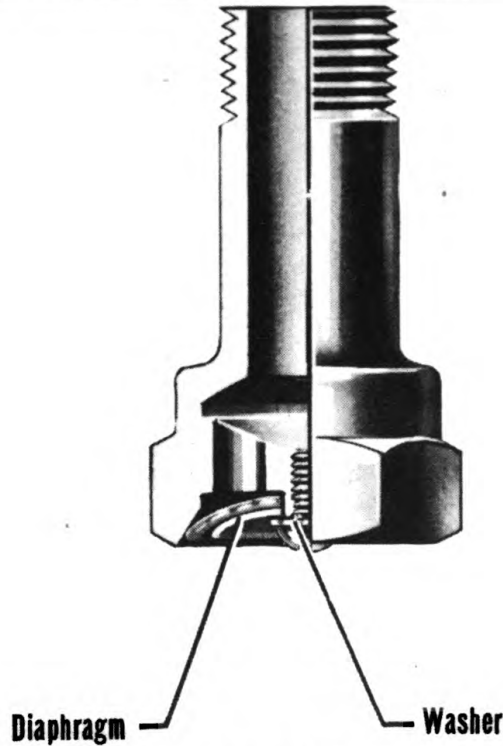

Figure 32—Cross Section of Exhaust Check Valve.
6. Exhaust Check Valve. (See figure 32.)